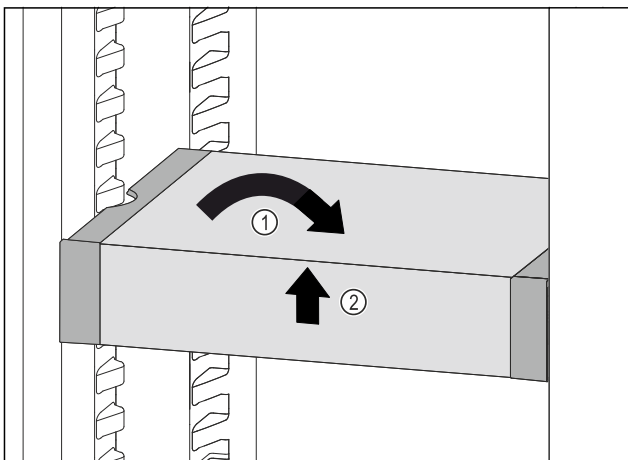

Fig. 75
- ▶ Set VarioSafe straight. *Fig. 75 (1)*
- ▶ Lift VarioSafe at the front. *Fig. 75 (2)*